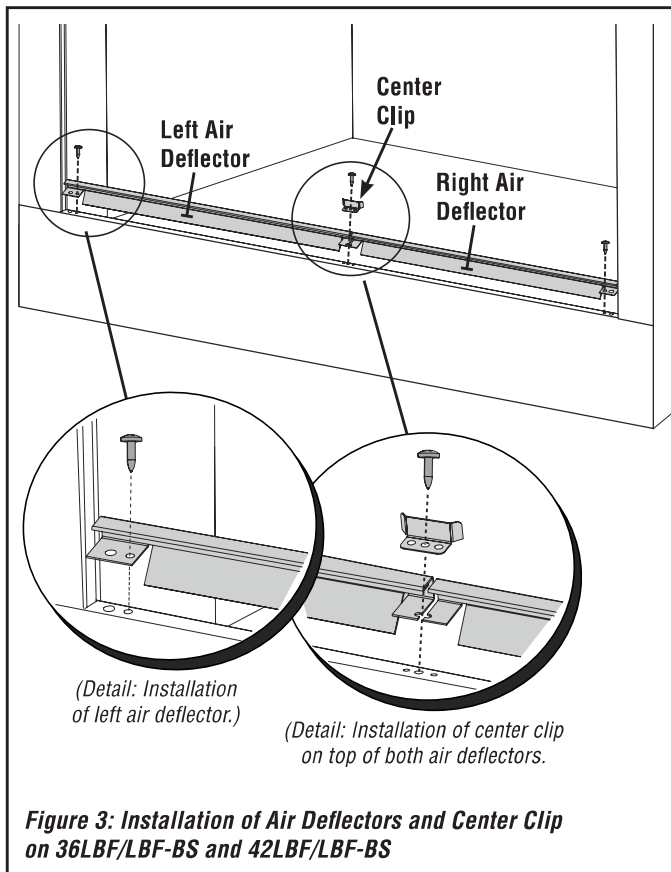

Figure 3: Installation of Air Deflectors and Center Clip on 36LBF/LBF-BS and 42LBF/LBF-BS
Step 1. Refer to *Figure 3, below*. Using a Phillips screwdriver, remove the three (3) factory-installed screws in the lower face of the firebox.